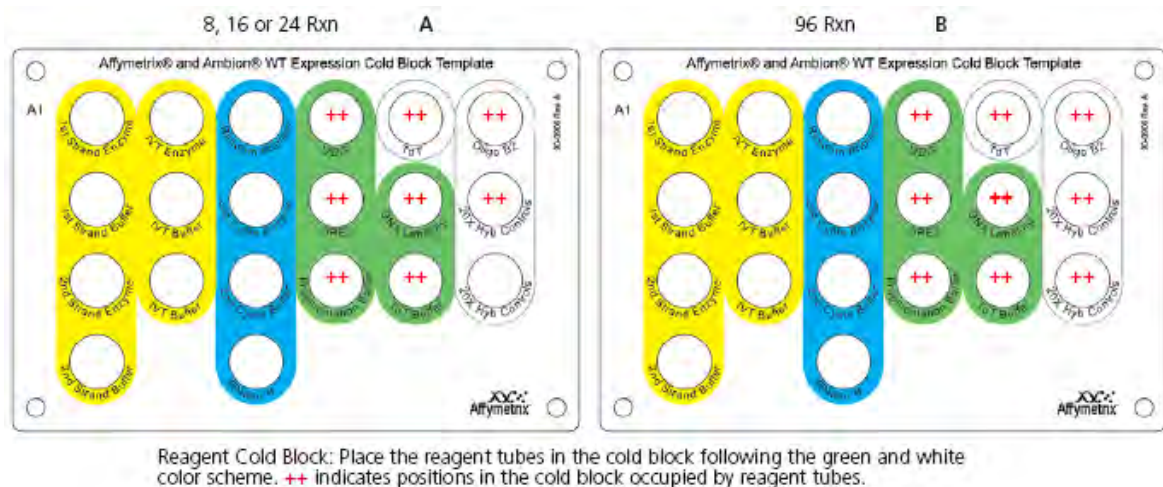

Figure 61 Reagent cold block setup for 8, 16, 24, and 96 reactions for Part 5 cartridge arrays.
4. Set up the reagent cold block as shown in Figure 61 A or B, depending on your sample format.
- b. Uncap the Fragmentation and DNA Labeling Reagent tubes and insert them into the cooled reagent cold block following the green and white color code of the template (Figure 61).
- c. Uncap the thawed 3 nM Control Oligo™ B2 and 20X Hybridization Controls tubes and insert them into the cooled reagent cold block following the white color code of the template (Figure 61).